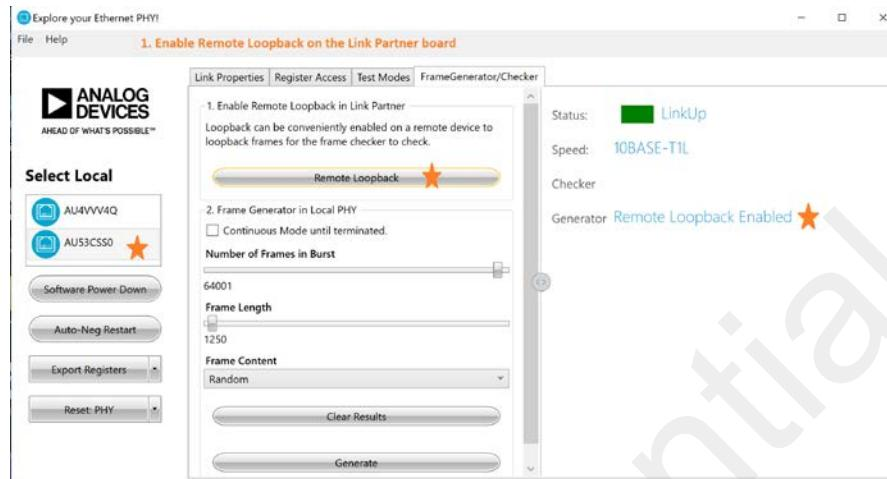

Figure 35. Frame Generator with Remote Loopback enabled – step1
1. Configure the link partner board in remote loopback using the **Remote Loopback** button (see Figure 35).